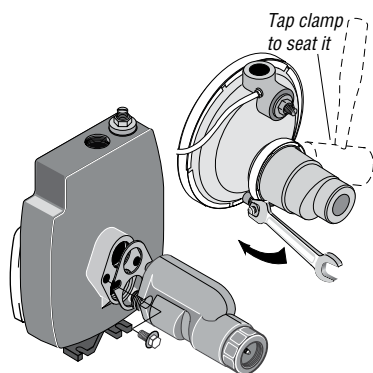

Figure 4: Mount Ejector – Shallow Well
3. Install ejector kit FP4855 with a Series 4200, or kit FP4875 with a Series 4300 pump (kits are sold separately). Follow the instructions provided with the kit. Be sure to align the venturi with the top hole on the front of the pump (see Figure 4).
2. Install ejector kit FP4855 with a Series 4200 pump, or kit FP4875 with a Series 4300 pump (kits are sold separately). Follow the instructions provided with the kit. Align the venturi with the top hole on the front of the pump (see Figure 4).